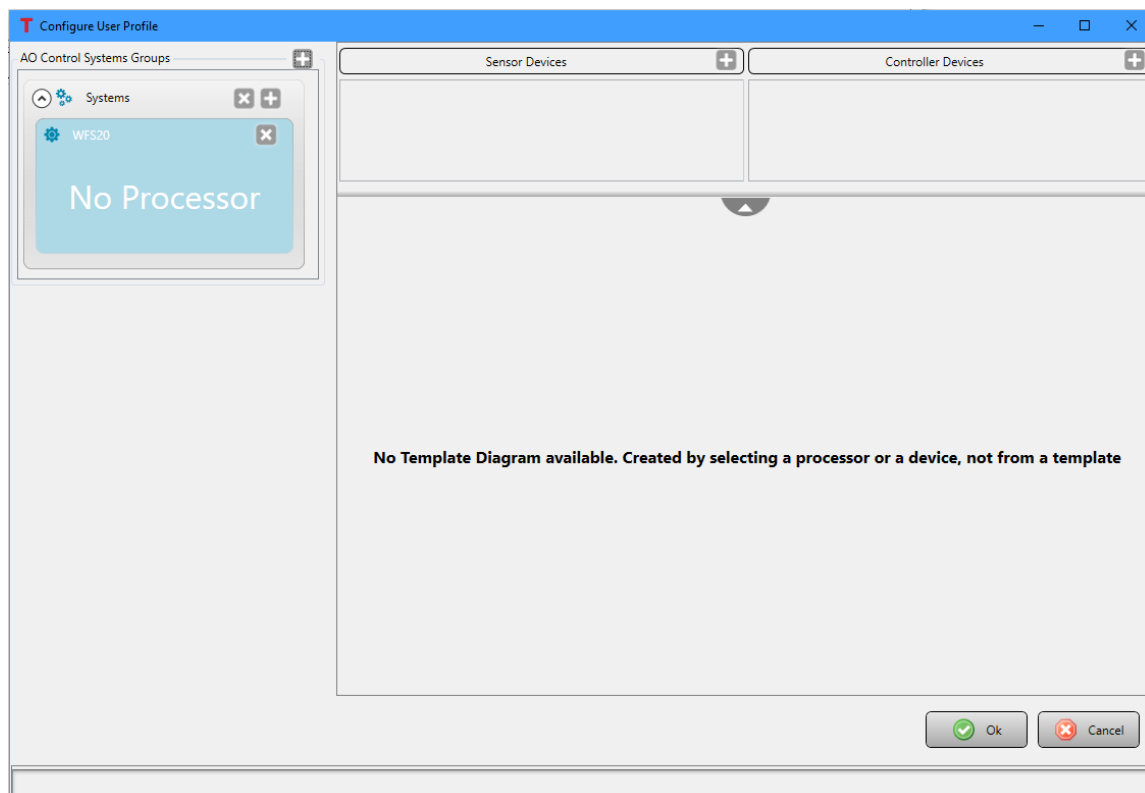

Figure 78 The Configure User Profile window is showing a newly created system titled WFS20. This is a device only system; no processor is linked to the system.
3. Click the Ok button to continue. This will update Configure User Profile window, showing the newly created system. Figure 78 shows the Configure User Profile window, with a newly created device only system titled WFS20 within the Control System Group titled Systems. The WFS20 system is labeled with No Processor, indicating it is a device only system. There is no device linked to the system, evident with no sensor or controller device listed under either category on the right side of the window in Figure 78.